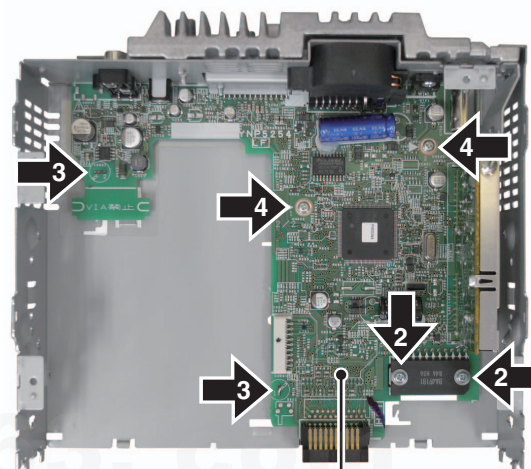

Fig.4
- ➔ 2 Remove the two screws.(Fig.4)
- ➔ 3 Straighten the tabs at two locations indicated.(Fig.4)
- ➔ 4 Remove the two screws and then remove the Tuner Amp Unit.(Fig.4)